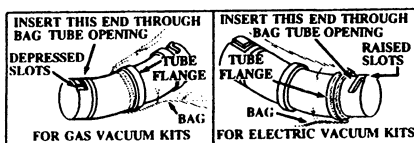

Figure 2
NOTE: For **GAS VACUUM KITS**, the longer end of the Elbow Tube with the **depressed retention slots** should be inserted through the bag tube opening; for **ELECTRIC VACUUM KITS**, the shorter end of the Elbow Tube with the **raised retention slots** should be inserted through the bag tube opening. See Figure 2.
2. Insert the collection bag elbow tube through the zipper opening in the vacuum bag (Figure 3), then through the bag tube opening in the other end of the bag (Figure 3) until the bag tube opening is seated against the tube flange (Figure 2).